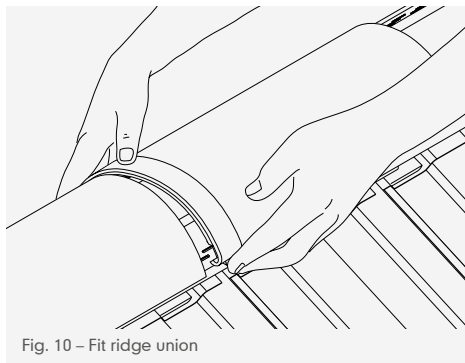

Fig. 10 – Fit ridge union
- 19 Fit ridge union by clipping each end over circular beads (Fig. 10, page 202).